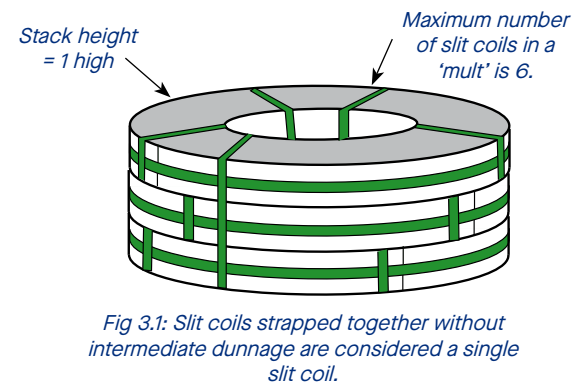

Fig 3.1: Slit coils strapped together without intermediate dunnage are considered a single slit coil.
- ✓ Without intermediate dunnage, the maximum number of slit coils strapped together to make a 'mult' is 6. (Fig. 3.1)